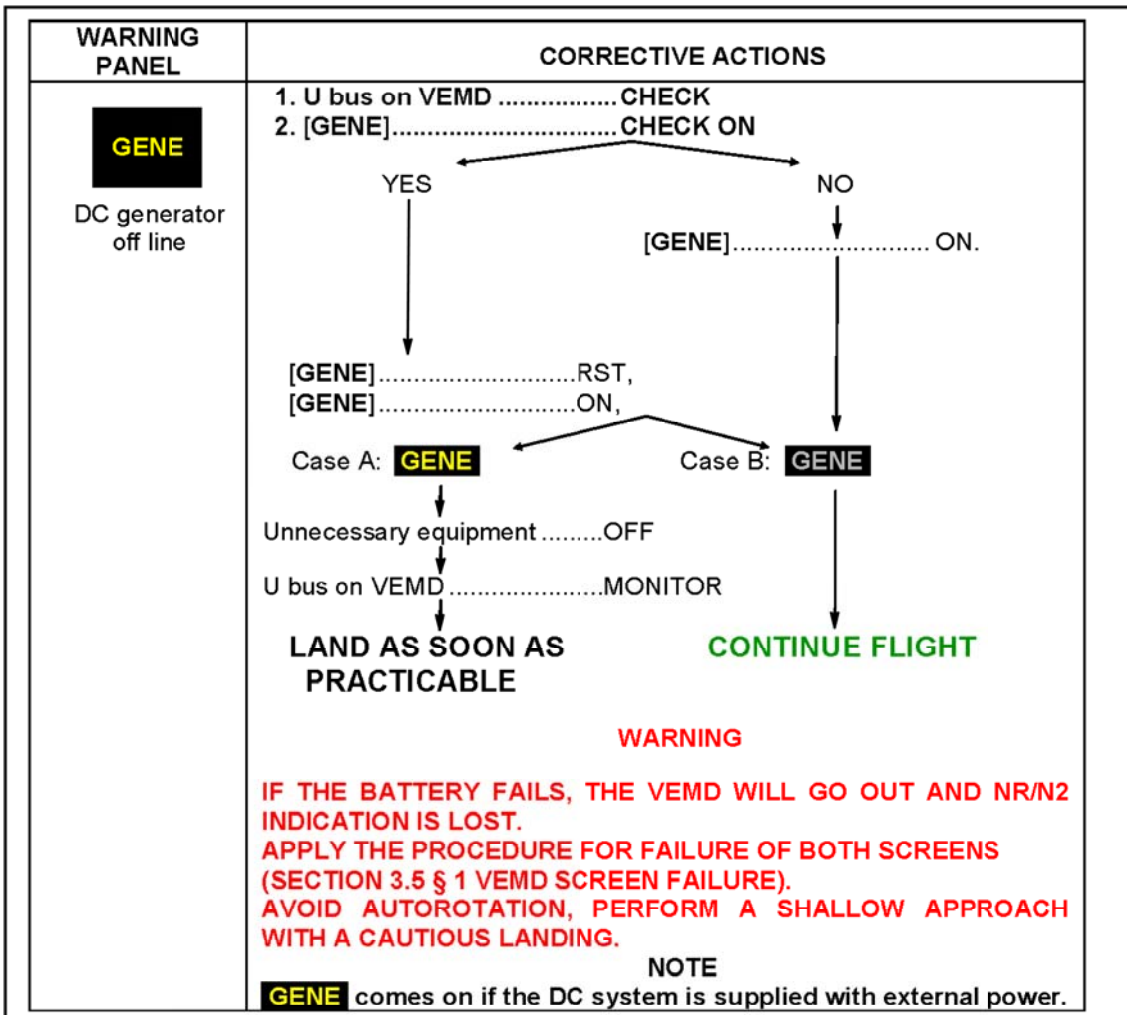

Figure 6 Procedure for GENE DC generator off line
- GENE light ON - Follow procedures for GENE DC generator off line in Figure 6.